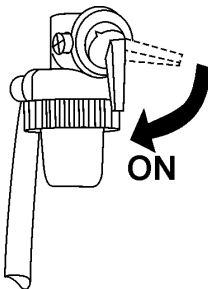

Figure 18. Engine Fuel Valve Lever (ON)
1. Place the engine fuel valve lever (Figure 18) in the **ON** position.